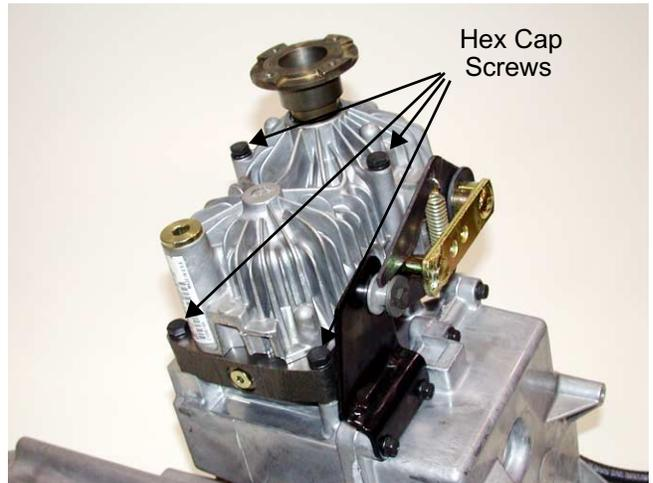

Figure 8.4
- 8.4. Using a 1/2 inch socket with extension, remove the four hex cap screws securing the hydro pump to the transmission housing. See Figure 8.4.